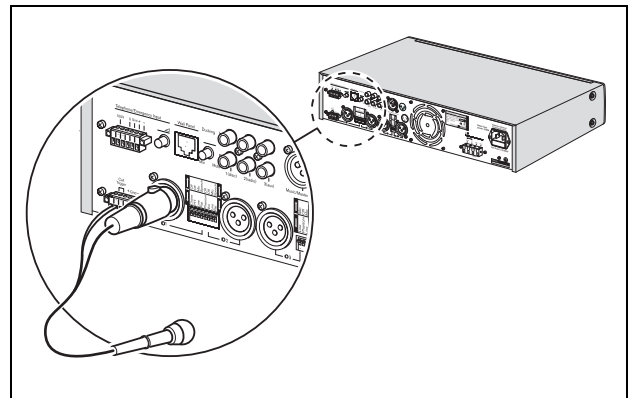

figure 4.2: XLR connector with trigger
- XLR connector with trigger. See figure 4.2.